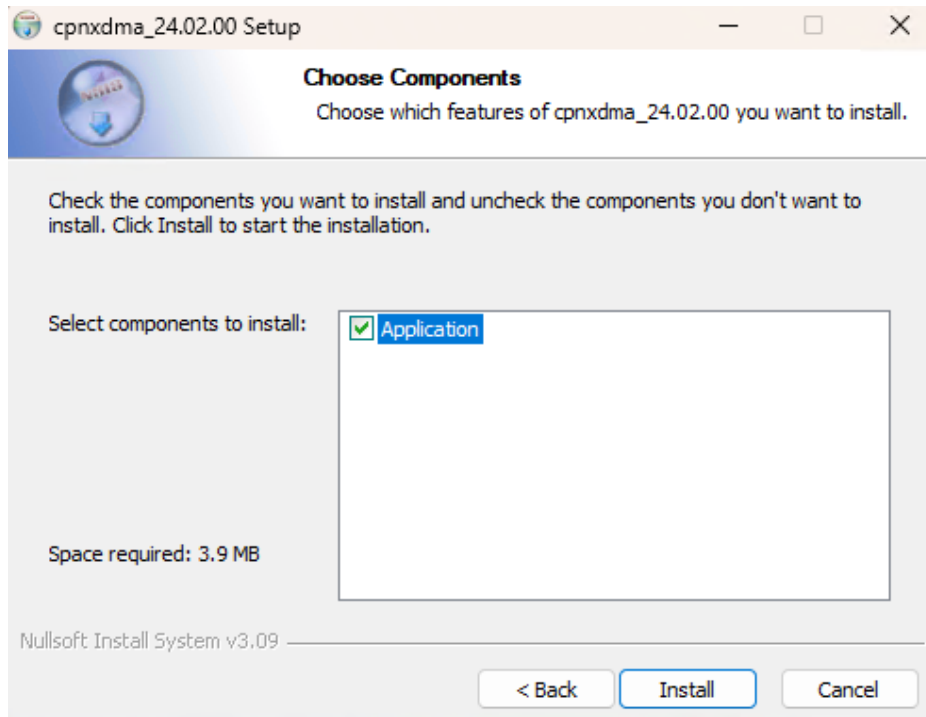

Figure 2.4. cpnxdma_24.02.00 Setup Install
6. Click **Next** until you see the window as shown in Figure 2.4. Click **Install**.